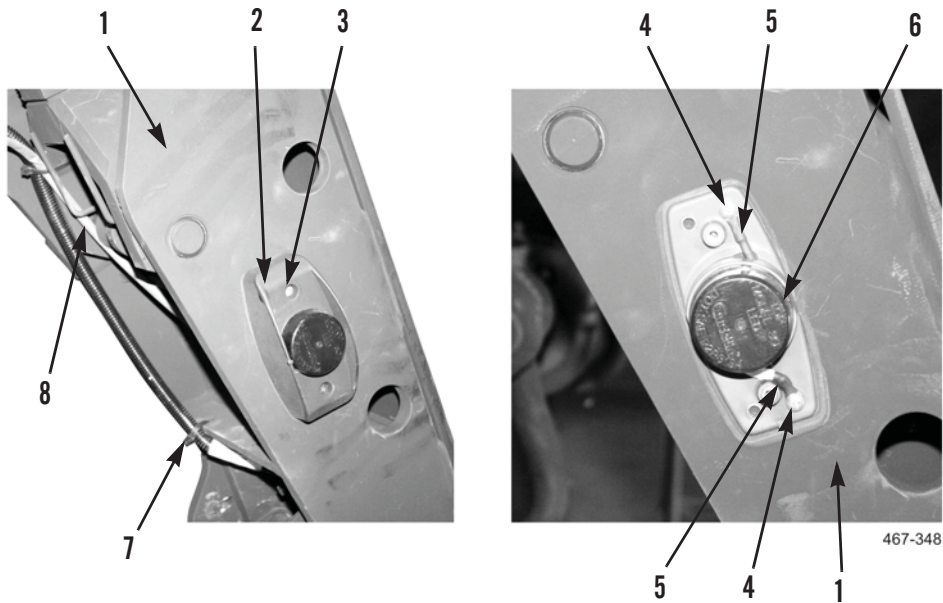

Figure 6. Slider Bed Light Removal.
9. Remove and discard tiedown straps (Figure 6, Item 7) as required.
10. Remove two screws (Figure 6, Item 3) and light cover (Figure 6, Item 2) from slider bed (Figure 6, Item 1).
11. Remove two screws (Figure 6, Item 4), ground wires (Figure 6, Item 5), light (Figure 6, Item 6), and light wiring harness (Figure 6, Item 8) from slider bed (Figure 6, Item 1).